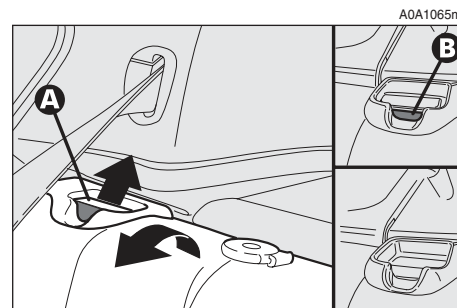
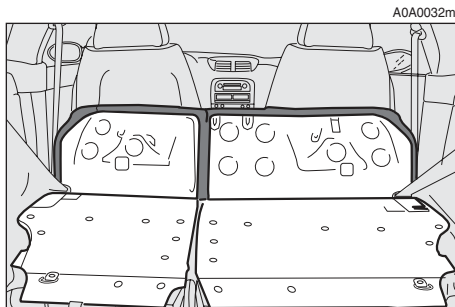

fig. 25
fig. 26
- across between the front seat backs and the tilted cushions of the rear seats when the luggage compartment is completely extended (see **fig. 26**).
— raise the levers (**A-fig. 25**) retaining the back rests and tilt them forwards to obtain a single loading surface (**fig. 26**).
— raise the lever (**A-fig. 25**) retaining the back rest and tilt.
- raise the back rests and push them backwards until you hear them click into position, then check that they are locked correctly by making sure that the “red band” (**B-fig. 25**) on the lever top side is no longer visible. If this “red band” is still visible it means that the seat is not locked correctly;